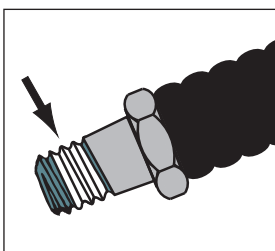

Figure 2: Sealing Tape
**NOTICE** As hoses, fittings and other components are assembled, apply 1-1/2 wraps of PTFE thread sealing tape to all threaded NPT or NPTF fittings, leaving the first complete thread free of tape as shown in Figure 2. Use care to prevent pieces of tape from entering the hydraulic system.